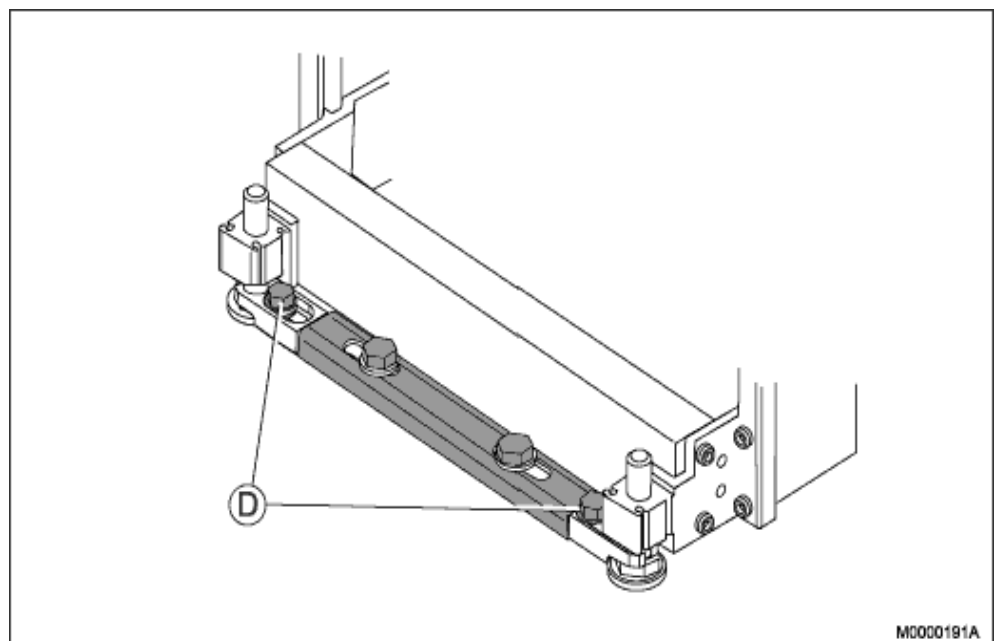

Figure 9: Securing the Earthquake Bracing
3. Secure the two expander screws and earthquake bracing by tightening the screws until the red caps snaps off, see Figure 9:Securing the Earthquake Bracing on page 15